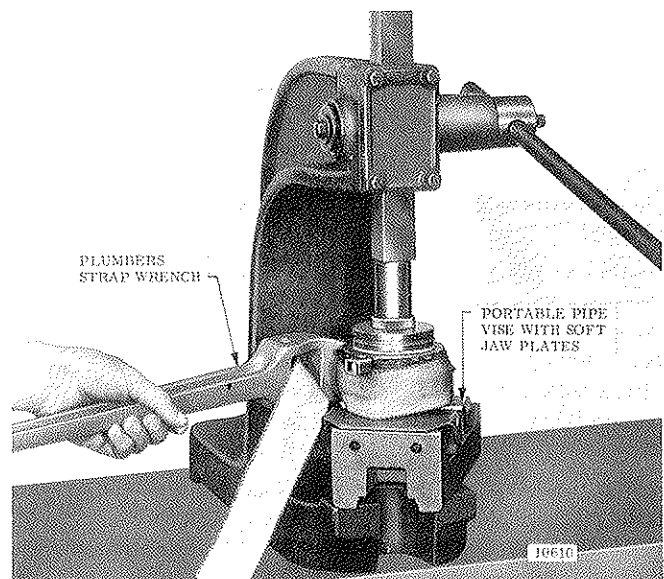

Figure 7-33. Winding Load Brake Gear Using a Strap Wrench to Set Up Load Brake Spring.
(6) The brake spring must be pre-loaded at assembly to a torque of from 6 to 10 lb. ft. when used with yellow (color code) spring and a torque of 10 to 14 lb. ft. when used with plain (no color code) spring. (See parts book for proper spring). This is accomplished using a plumber's strap wrench to wind (rotate) load brake gear to set up spring (fig. 7-33) while pressing brake flange into place using an arbor press. Clamp pinion end of shaft into a portable vise to keep brake from rotating in press. Use brass or copper jaw plates on vise to protect pinion gear teeth. Wind gear counter-clockwise (viewing brake from flange end) with strap wrench and press down on flange until snap ring groove in shaft is exposed allowing snap ring to be installed. Use extreme care not to over wind spring as yield will result and final spring torque will be reduced. Do not wind gear beyond point necessary to install snap ring in groove.